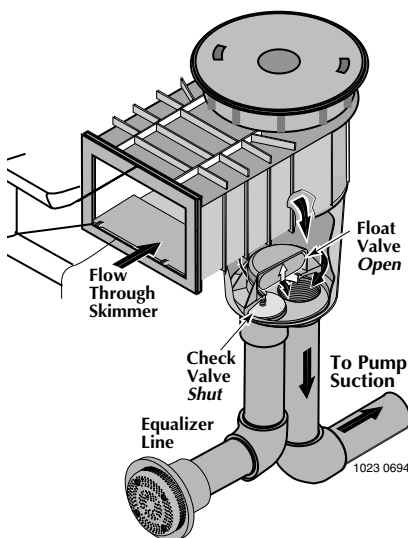

Figure 1: Normal operation: float valve open, check valve shut.
- Skimmers **without** float: Adjust shut-off valves in pump suction line from skimmer and pool main drain line. (See Figure 1, below.)